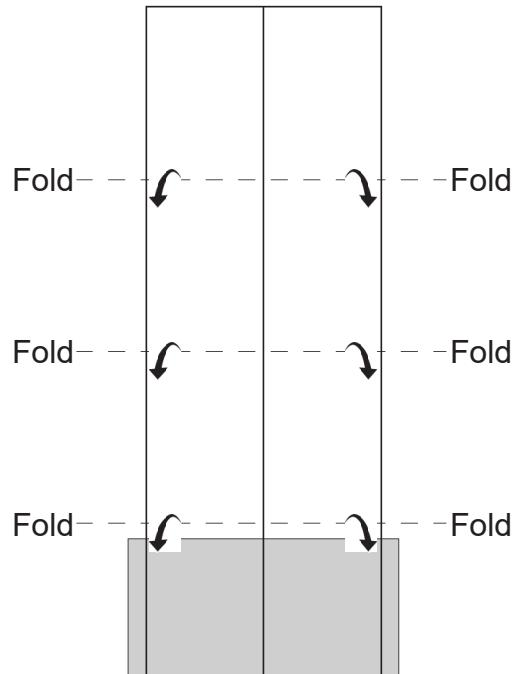

FIGURE 881
Refer to **Figure 881**.
Refer to **Figure 881 (i)**.
Refer to **Figure 881 (ii)**.
- (g) Use three full folds to fold the liferaft into the container. Make sure each fold is as tight as possible. Refer to **Figure 881 (iii)**.